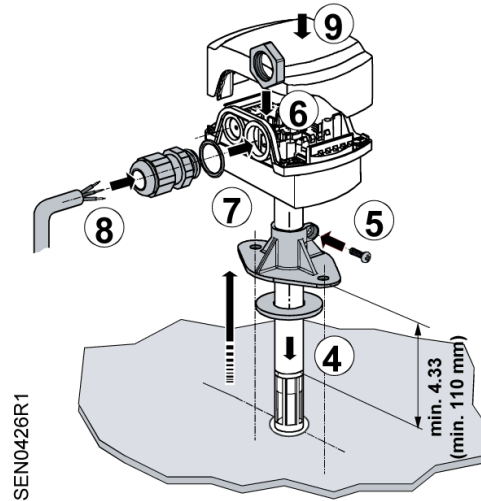

Figure 4.
- c. Attach the sensor mounting bracket and gasket to the duct using two No. 8 x 1-inch sheet metal screws. See Figure 4 ④.
- d. Insert the sensor in the duct through the bracket and tighten the mounting screw to set the insertion depth. See Figure 4 ⑤.
- g. Reinstall the sensor cover. See Figure 4 ⑨.